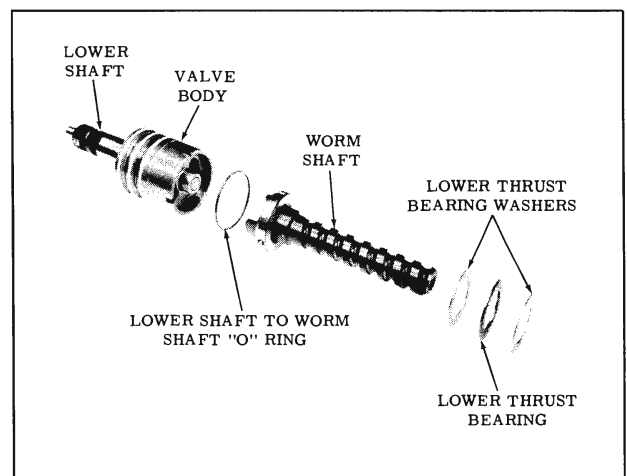

Fig. 4-273 Worm and Valve Body Assembly
1. Lubricate the worm, lower thrust bearing and the two thrust washers with Hydra-Matic oil, then install one thrust washer, the bearing, and the other thrust washer over the end of the worm. (Fig. 4-273)